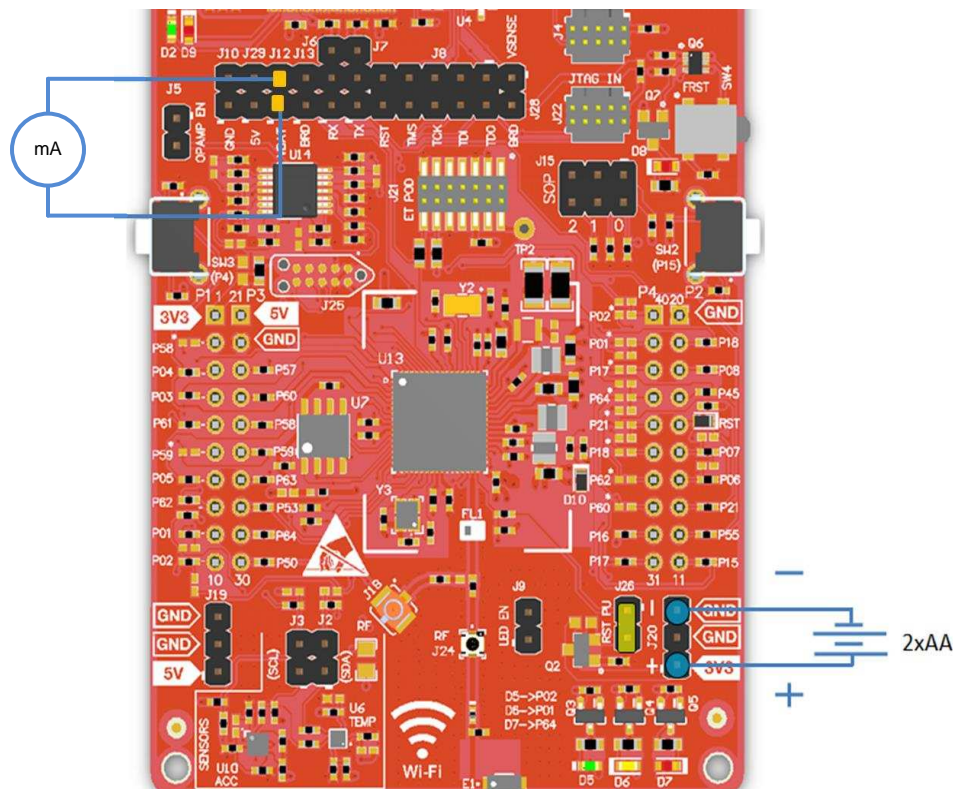

Figure 15. Low Current Measurement (<1 mA)
1. Remove the VBAT jumper (J12); attach an ammeter across this jumper, as shown in Figure 15. The CC3220 device should not drive any high-current loads directly, such as an LED, as this can draw a large current.